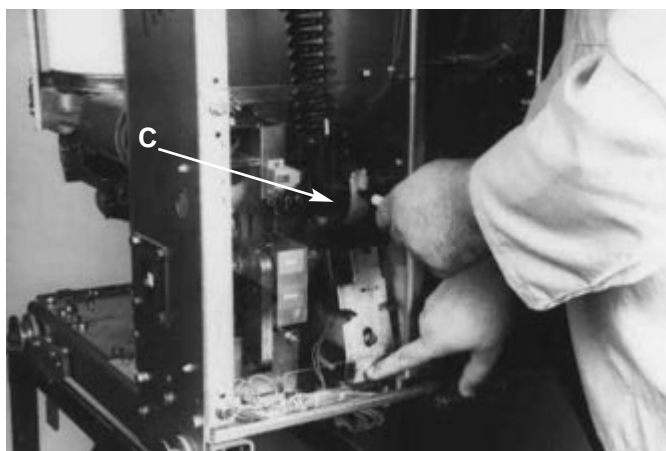

Figure 6-12 Manually Closing Circuit Breaker with Marker in Hole "C".
General Information: The CloSure™ Test can be performed on the VCP-W, VCP-WR, VCPW-ND, DHP-VR, W-VACR, and W-VAC lines of vacuum circuit breakers. Refer to Table 6.4 a for list of circuit breakers. If the CloSure™ travel obtained is as specified, the mechanism performance is satisfactory. If the CloSure™ travel does not conform as shown in Figure 6-12, contact Cutler-Hammer for further information. (See Step 13).
Step 8 - While holding the marker tip on the tape, close the breaker (Figure 6-12).